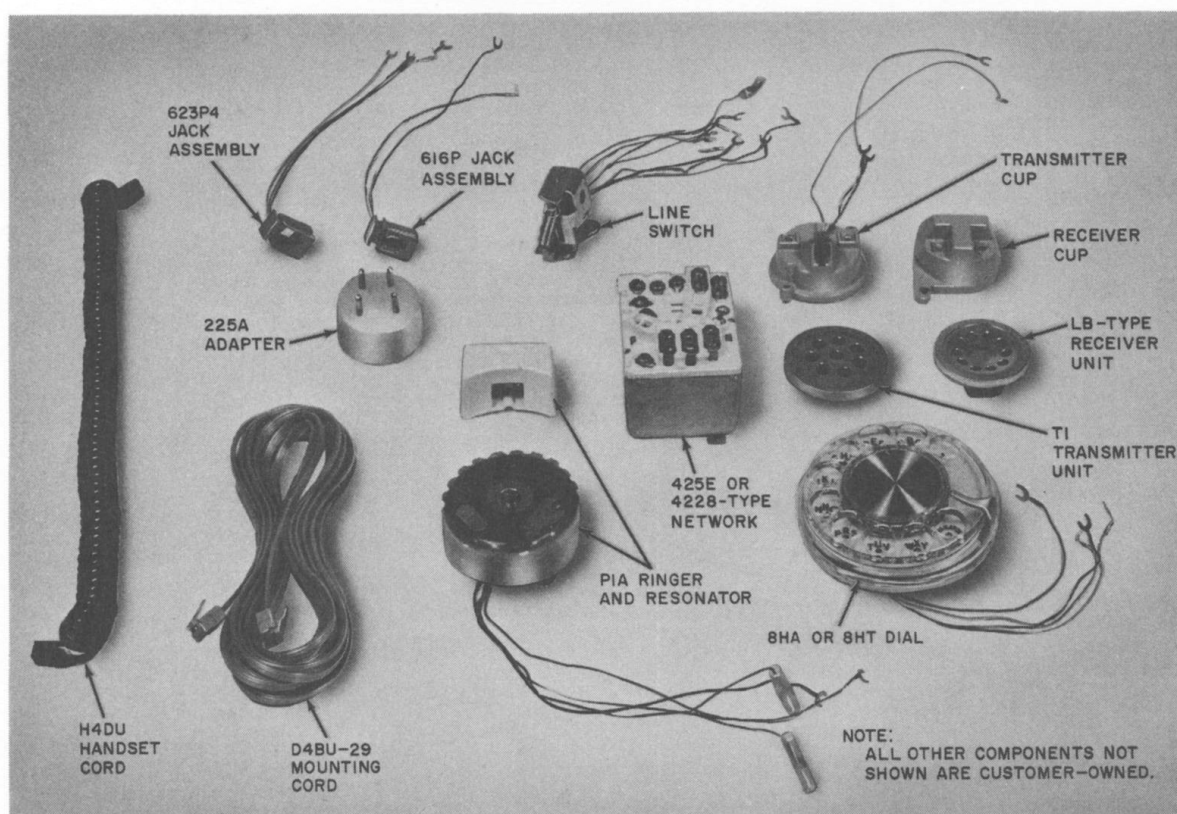

Fig. 8— Telephone Company-Owned Components (Set Equipped with a Rotary Dial)
4.01 When it is desired to discontinue telephone service of the 930-type, 2930-type, and 2931B DESIGN LINE telephone sets, remove the telephone company-owned components that can be easily removed. Refer to Fig. 8 and 9 for identification of company-owned components and proceed as follows: